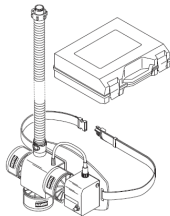

Figure 9
- Powered Air Purifying Respirator (PAPR) (Figure 9 example COMPACT AIR)